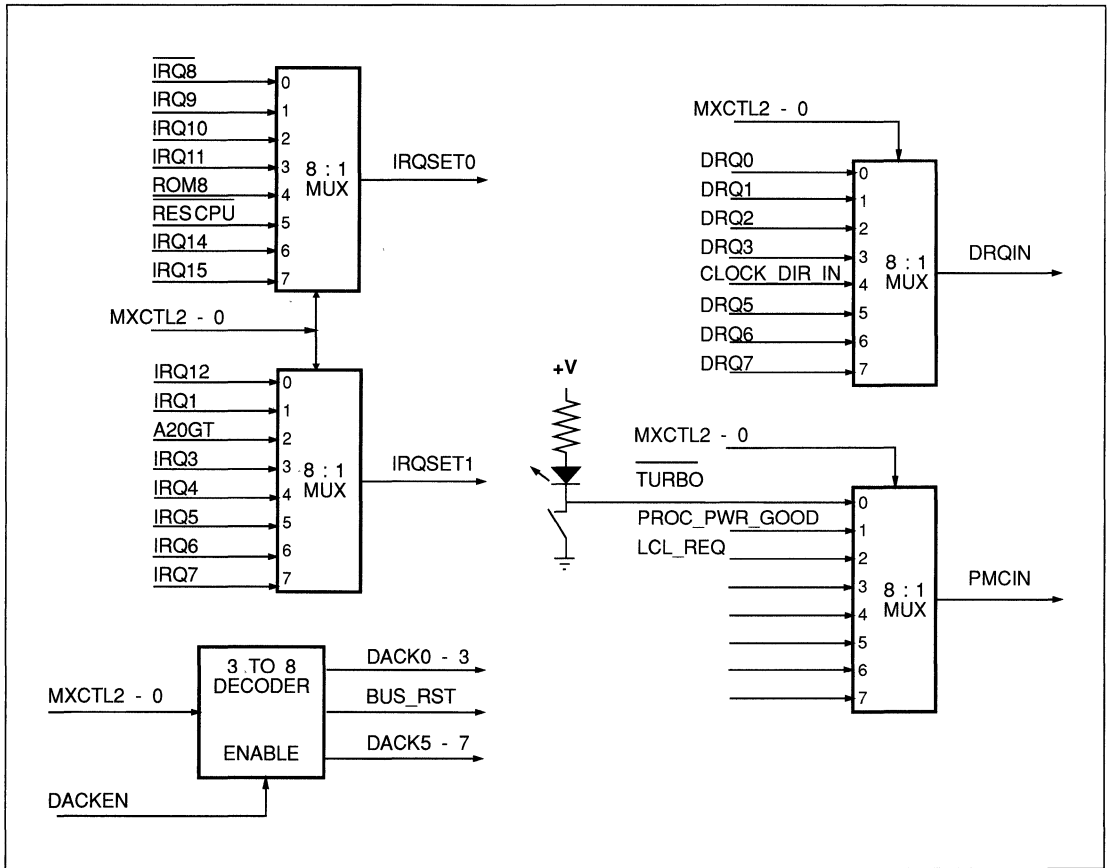

FIGURE 5-1. MXCTL(2:0) MULTIPLEXING
* Based upon the value of CLOCK_DIR_IN at power up (refer to Table 5-1, Figure 5-1 and section 5.1.2).
To reduce the number of pins required, the System Controller generates and outputs the MXCTL(2:0) and DACKEN signals used by external logic to multiplex the DACKs, DRQs and IRQs down to single inputs. See Figure 5-1.
Immediately following a System Reset ($\overline{\text{RSTIN}}$), DRQIN input 100 is sampled. If low, the processor clock (CPUCLK) pin is an output. If high, the CPUCLK starts as an output but is switched to an input shortly after $\overline{\text{RSTIN}}$ is de-asserted. See Table 5-1 and Figure 5-1. This controls the default value of CLK_SPD in the CPU Clock (CPUCLK) Control Register at Port 1072H. See section 4.2.4.
The Interrupt Requests are multiplexed by the WD76C30. The multiplexing is performed as shown in Table 5-1 and Figure 5-1, and provides the System Controller with the IRQSET1 and IRQSET0 signals.
The power control signals are placed on the PMCIN input pin by way of an 8-to-1 multiplexer, controlled by the MXCTL(2:0) signals from the System Controller. In the WD7855/LV, the external 8:1 MUX is always used. See Figure 5-1. Bits 14 and 13 of Port 1872H (Section 5.3) control the power down of the processor and peripheral.
When a PMC interrupt occurs, PMC output 7 at Port 7072H is reset, enabling the power up sequence. A CPURES and BUS_RST (see Figure 5-1) are asserted until the PMCIN 01 PPG at Port 8872H input is high. The tristated outputs are restored and the inputs are no longer masked. Refer to Section 9.15 for more details regarding suspend and resume.